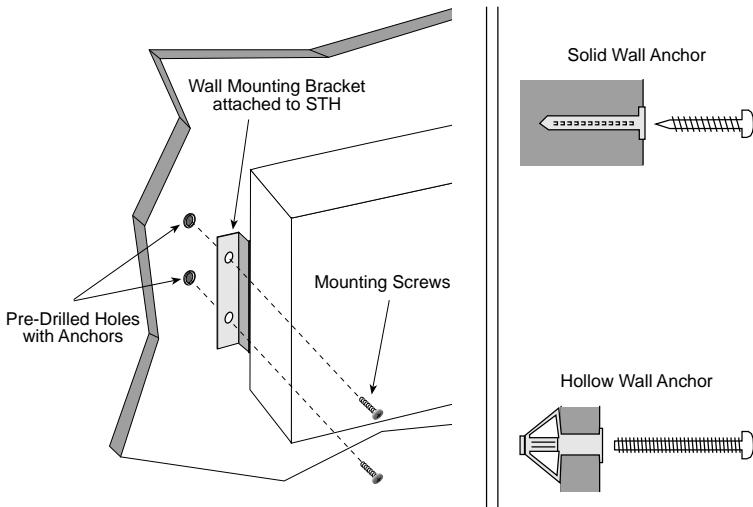

Figure 3-6. Wall-mounting the STH
3. Get a pencil. With the wall mounting brackets attached to the STH, position the STH against the wall where it will be permanently mounted with the network port facing down, as shown in Figure 3-6, and mark the screw holes' positions on the wall.